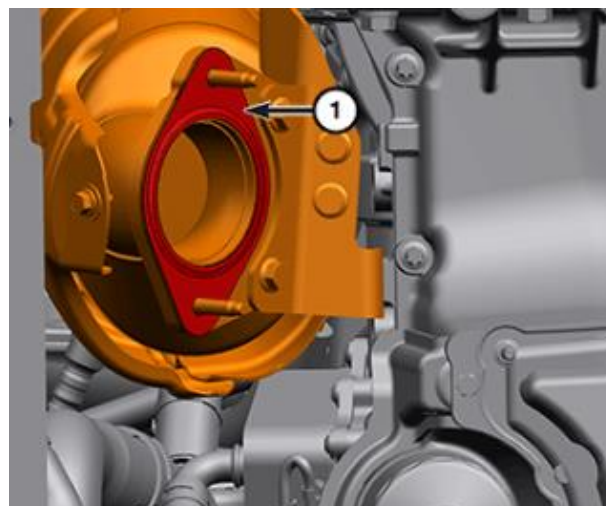

Figure 22 – Exhaust Gasket
16. Remove and DISCARD the exhaust gasket (1) (Figure 22).
15. Install a **NEW** exhaust gasket (Figure 22).